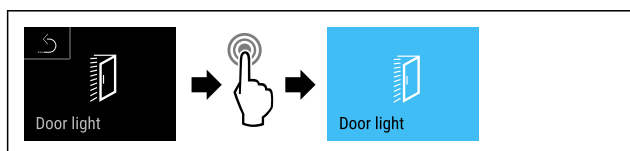

Fig. 97
- ▶ Complete the steps (see Fig. 97).